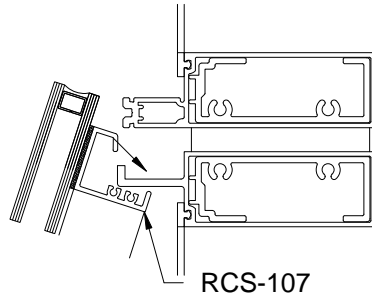

FIGURE 24
- 2.37 Install lower lite by dropping hook of RCS-107 over tongue of horizontal and rotating into position as shown in FIGURES 24 & 25. Once glass is in position secure in place using RCS-102-01 cassette clips using a FS-325 fastener. Locate clips at 12" on center at verticals and sill of lite.